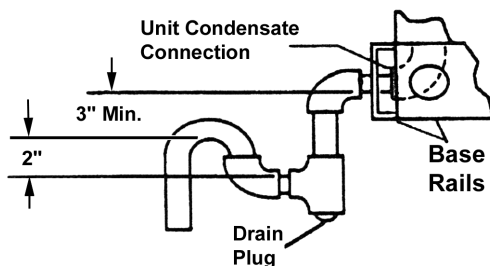

Figure 11: Condensate drain
**NOTE:** The condensate drain operates in a negative pressure in the cabinet. The condensate drain line must be trapped to provide proper drainage. See Figure 11.